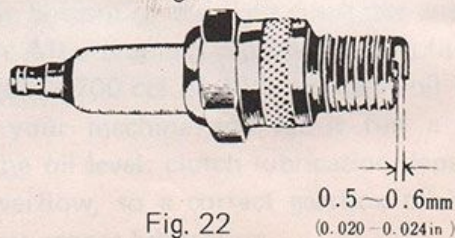

Fig. 22
- c. Check the gap between the electrodes. (See Fig. 22)